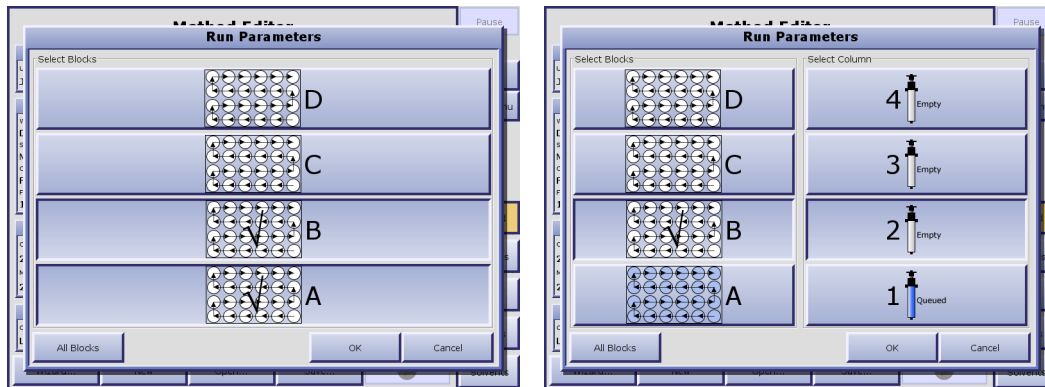

Figure 3-9. Run Parameters Dialog (SP1 and SP4)
5. In the **Run Parameters** dialog, select/press the collection block(s), and, if using an SP4 system, the column to be used. "Check mark" = the block is selected (see Figure 3-9). If you want to use the whole rack, press **All Blocks**. (If the **Run Parameters** dialog is not displayed, your system has been configured to allocate the whole rack for each run.)